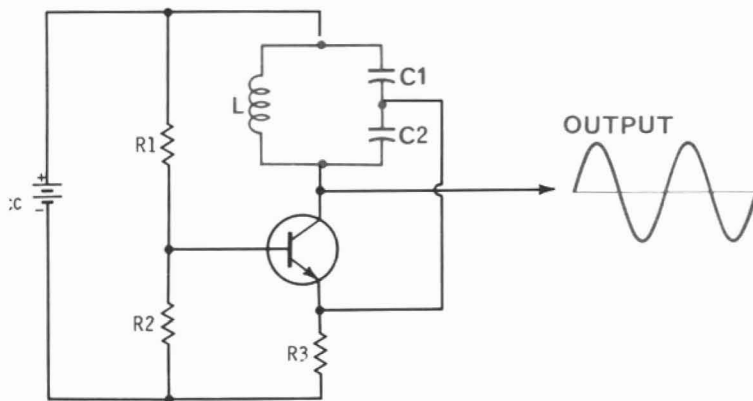

Fig. 5-9. Colpitts oscillator.
An LC oscillator is shown in Fig. 5-9. The circuit is a Colpitts oscillator because the feedback signal is taken from the junction of the two capacitors in the tank circuit. Resistors R1, R2, and R3 are bias resistors. The tank circuit consists of L1 in resonance with the series combination of C1 and C2. The feedback signal is applied by the connection from the junction of C1 and C2 to the emitter of the transistor. A Hartley oscillator would have almost the same configuration with the significant difference being that the feedback signal would be derived from the tank-circuit inductor. A PNP transistor could have been shown just as well provided the polarity of  $V_{cc}$  were reversed.
- Q5-11. In the illustration of Fig. 5-9, the frequency of oscillation is determined by (a) L1 resonating with C1, (b) L1 resonating with the parallel combination of C1 and C2, (c) L1 resonating with the series combination of C1 and C2, or (d) time constant associated with L1 and R3.
**A5-11.** In the illustration of Fig. 5-9, the frequency of oscillation is determined by (c) **L1 resonating with the series combination of C1 and C2.**